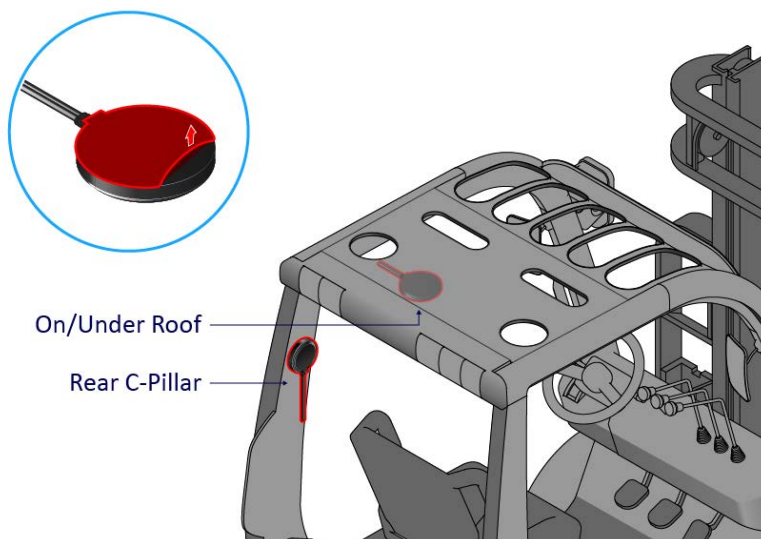

Figure 19: Wi-Fi/GPS antenna installation
2. VIA recommends installing the speaker on one of the rear C-pillars as shown in Figure 19.
2. VIA recommends installing the antenna on either one of the rear C-pillars or under the roof of the forklift as shown in Figure 19.